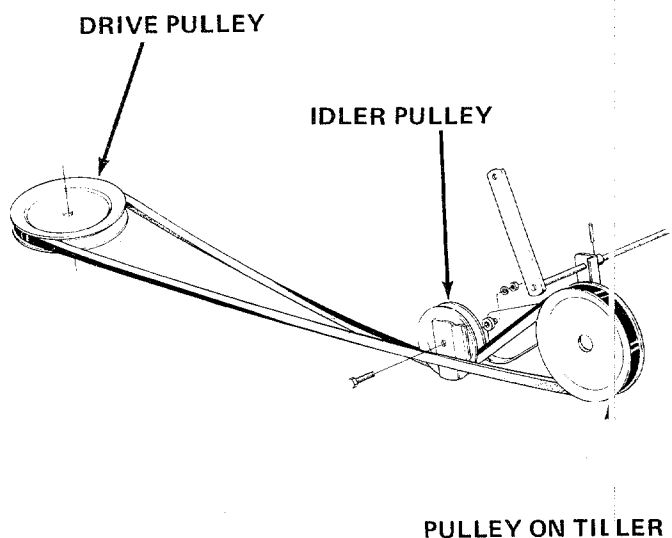

FIGURE 18
28. Assemble the belt as follows (refer to figure 18).
- C. Twist the belt 90° to the right as shown in figure 18. Slip the belt around the drive pulley on the tractor.